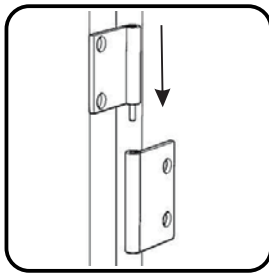

Figure 8
Attach Doors (P) and (Q) to unit from Step 2 by sliding door hinges into side panel hinges. (See Figure 8)